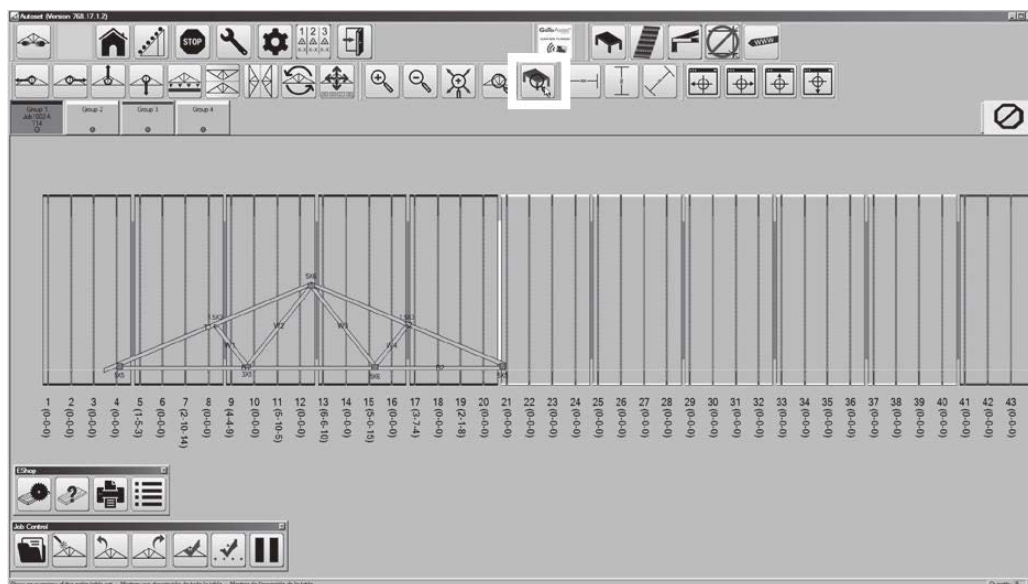

FIGURE 39
8. Zoom to show an overview of entire system: Click to view entire system (Figure 39).